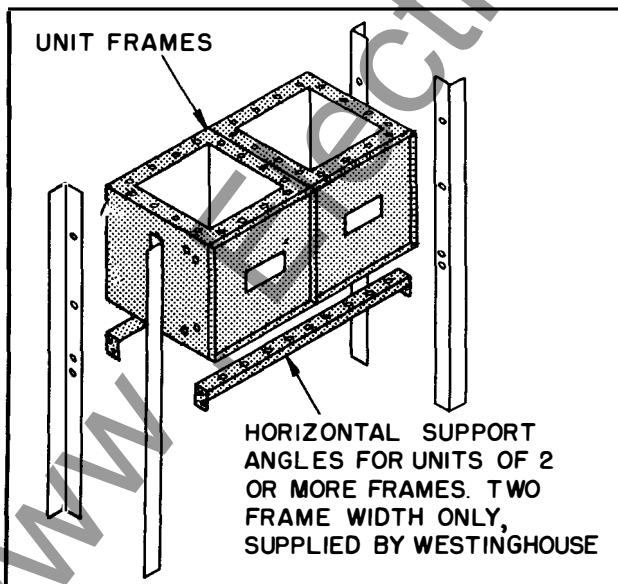

Fig. 5. Two Frame Supports
**Multiple Frame Units.** Two or more frames may be mounted side by side where larger capacity is required. These installations require horizontal supports to prevent distortion of the frames. See Figs. 5 & 6. Standard two frame units (see Table No. 2) are furnished with two support angles for this purpose. These supports are drilled to match the holes in the frame flanges. (Bolts supplied by others). Horizontal supports are not supplied for units having three or more frames and must be furnished by others to suit the installation.